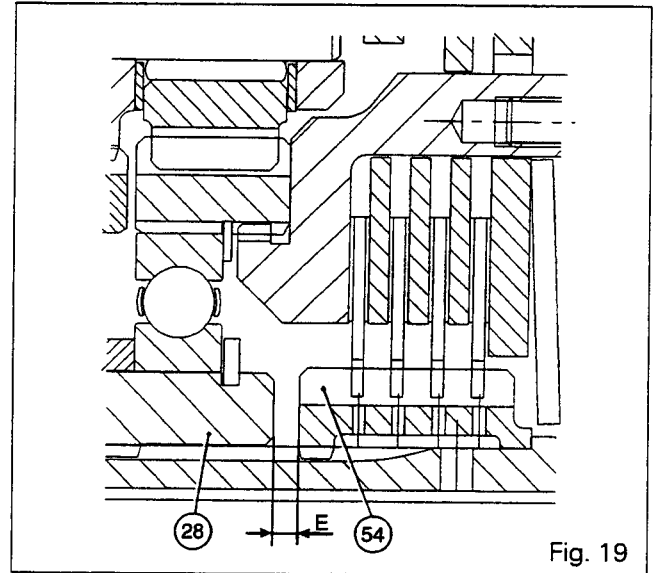

Fig. 19
62. Fit the secondary sun gear (61) and its retaining ring (49) on the ball bearing (57).
64. Determine the clearance **E** between the primary planetary carrier (28) and the hub (54) (Fig. 19) using the formula : **E = D - A**